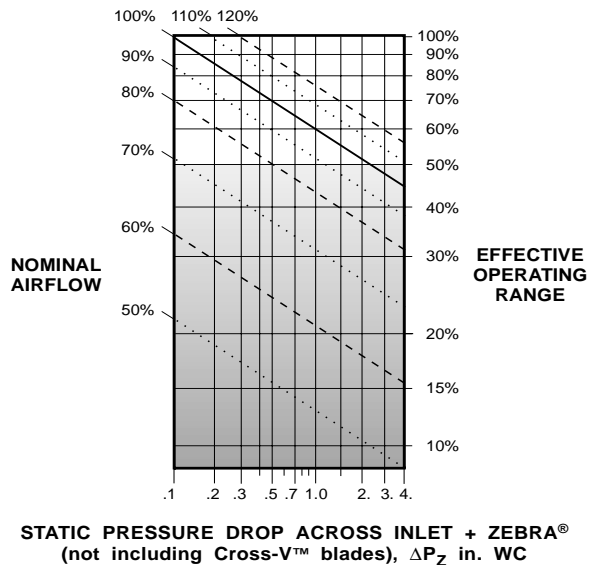

Figure 2. Controllability Graph
Figure 2 shows the effect of airflow rate and ΔP_z on controllability for VAV valves. The maximum operating range of a VAV valve is the physical distance (linear or rotational) in which it modulates. The Effective Operating Range is equal to the maximum operating range minus the amount the valve must close to compensate for the system static pressure at the design airflow rate. Optimum controllability is attained by selecting the smallest sized unit which meets the design airflow and sound requirements.
E. Check the effective operating range of each inlet against the design requirements using Figure 2 (page 2). Find Y-axis value:
F. Use the % Nominal Airflow and Actual ΔP_z with Figure 2 to find the effective operating range. If the selected unit's range falls below 50% on the graph, the next smaller unit should be considered. Reselect, and repeat steps C through E.
F. Figure 2 (page 2) indicates that the cold-inlet effective operating range at 100% of Nominal airflow for 0.92 in. WC is 60% (ranges below 50% are not recommended). The hot-inlet range at 91% of Nominal for 0.59 in. WC is 58% (acceptable).